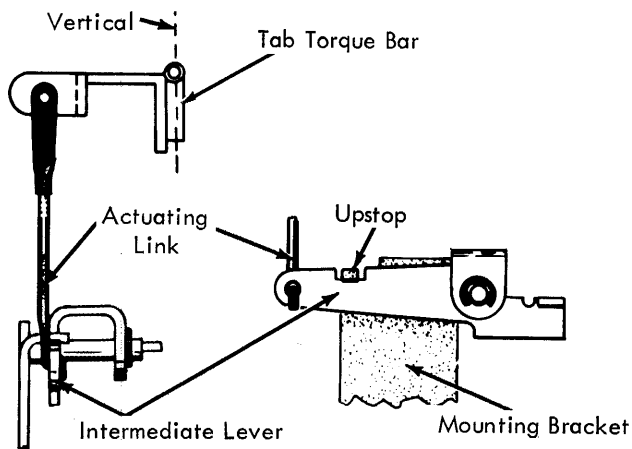

FIGURE 242.2. Actuating Link, 15" Machine
5. Actuating Link, 15" Machine (Fig. 242.2) - With the backspace cam latched and the intermediate lever resting against its upstop, adjust the actuating link clevis so that the tab torque bar hangs vertically.